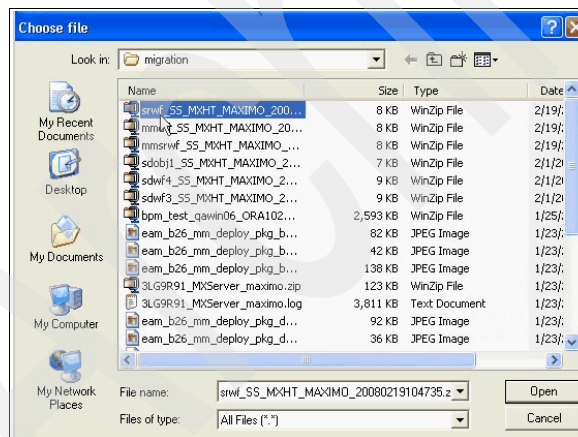

Figure 8-45 Select file to upload
3. In the dialog box that is displayed, select the file to upload from the location used to download the package, as shown in Figure 8-45.